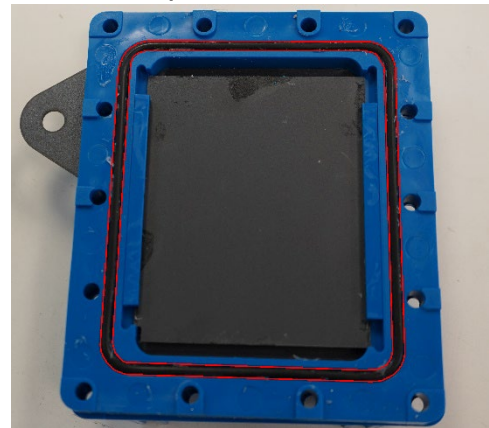

Figure 3-11. Cell Housing Gasket
- Clean the gaskets and gasket mating surfaces of the cell housings (Figure 3-11)